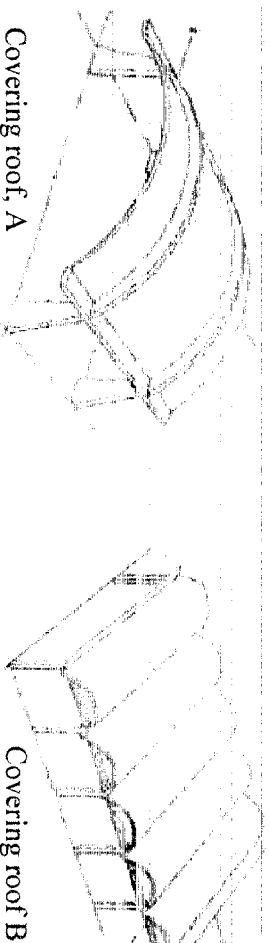

Fig. 4
1. Fig. 4 shows two types of cylindrical shell covering roof, it is required to define them and compare between the two types.